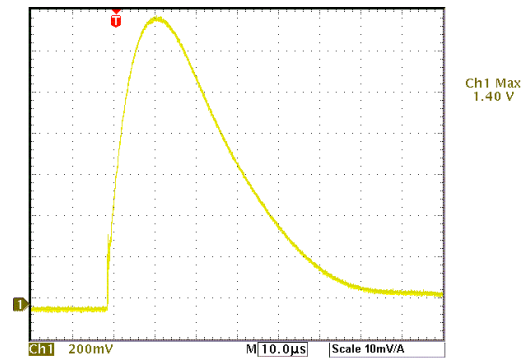

Fig. 4 Inrush current of HLS030ZE with an external 100 μ F electrolytic capacitor
Figure 4 shows the inrush current of a Power-One DC/DC converter model HLS030ZE, connected to the 48V source via a 1' cable. A 100 μ F aluminum electrolytic capacitor was connected across the input pins of the converter to simulate typical power distribution scheme.
Inrush current – Figure 4
From Figure 4 and (4),